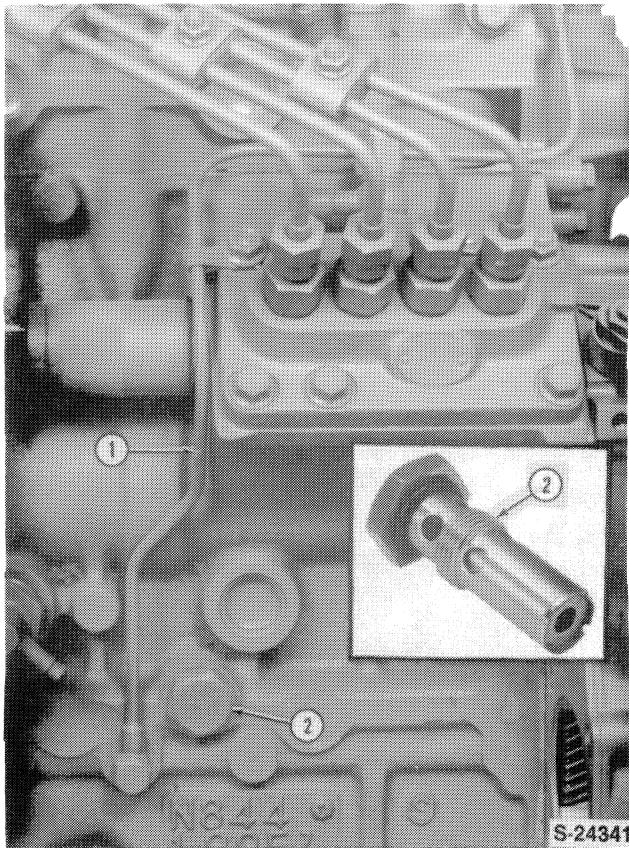

Figure 10
Pressure oil from the main oil gallery flows through a tube (1), to the front of the valve rocker shaft to lubricate the rocker arms, valve stems, push rods and tappets, Figure 10.
The relief valve (2), Figure 10, is mounted in the side of the block and intersects the main oil passage. When the oil pressure exceeds the rated pressure, oil is by-passed through the relief valve directly to sump.